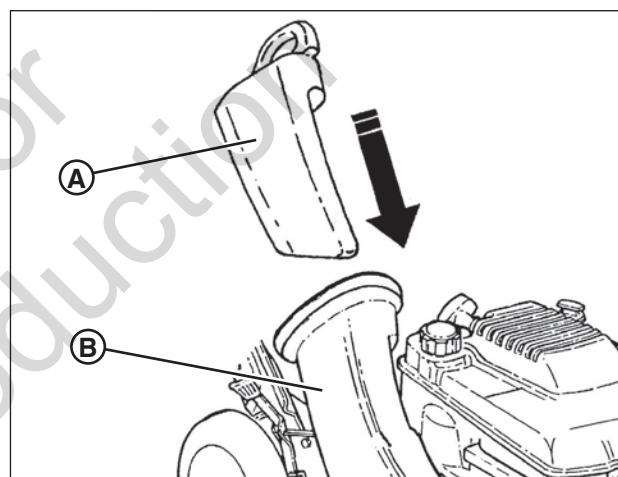

Figure 11: Installing the mulching plug
1. Install the mulching plug (**A, Figure 11**) if mulching is desired after the bag adapter is installed. Install the mulching plug completely and securely into the bag adapter (**B**).